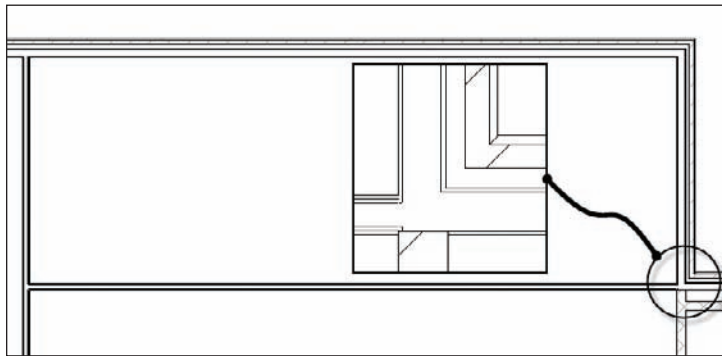
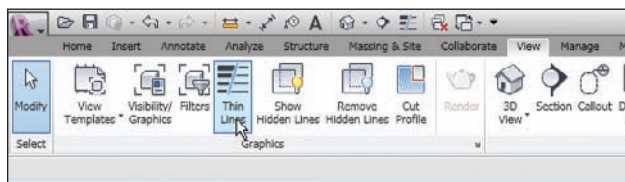

FIGURE 2.50 The wall and the resulting intersection
FIGURE 2.51 Click the Thin Lines icon to see how the walls are joining together.
4. The wall may be flipped in the wrong direction. If it is, remember to hit the spacebar. This will flip it up to the proper orientation. Look ahead to Figure 2.50 for the orientation.
5. Pick the second point of the wall at the corridor in the middle of the building. Press Esc twice. The intersection should look like Figure 2.50.
6. Zoom back in on the intersection. If the view does not resemble Figure 2.50 in terms of line weight, click the Thin Lines icon, as shown in Figure 2.51.